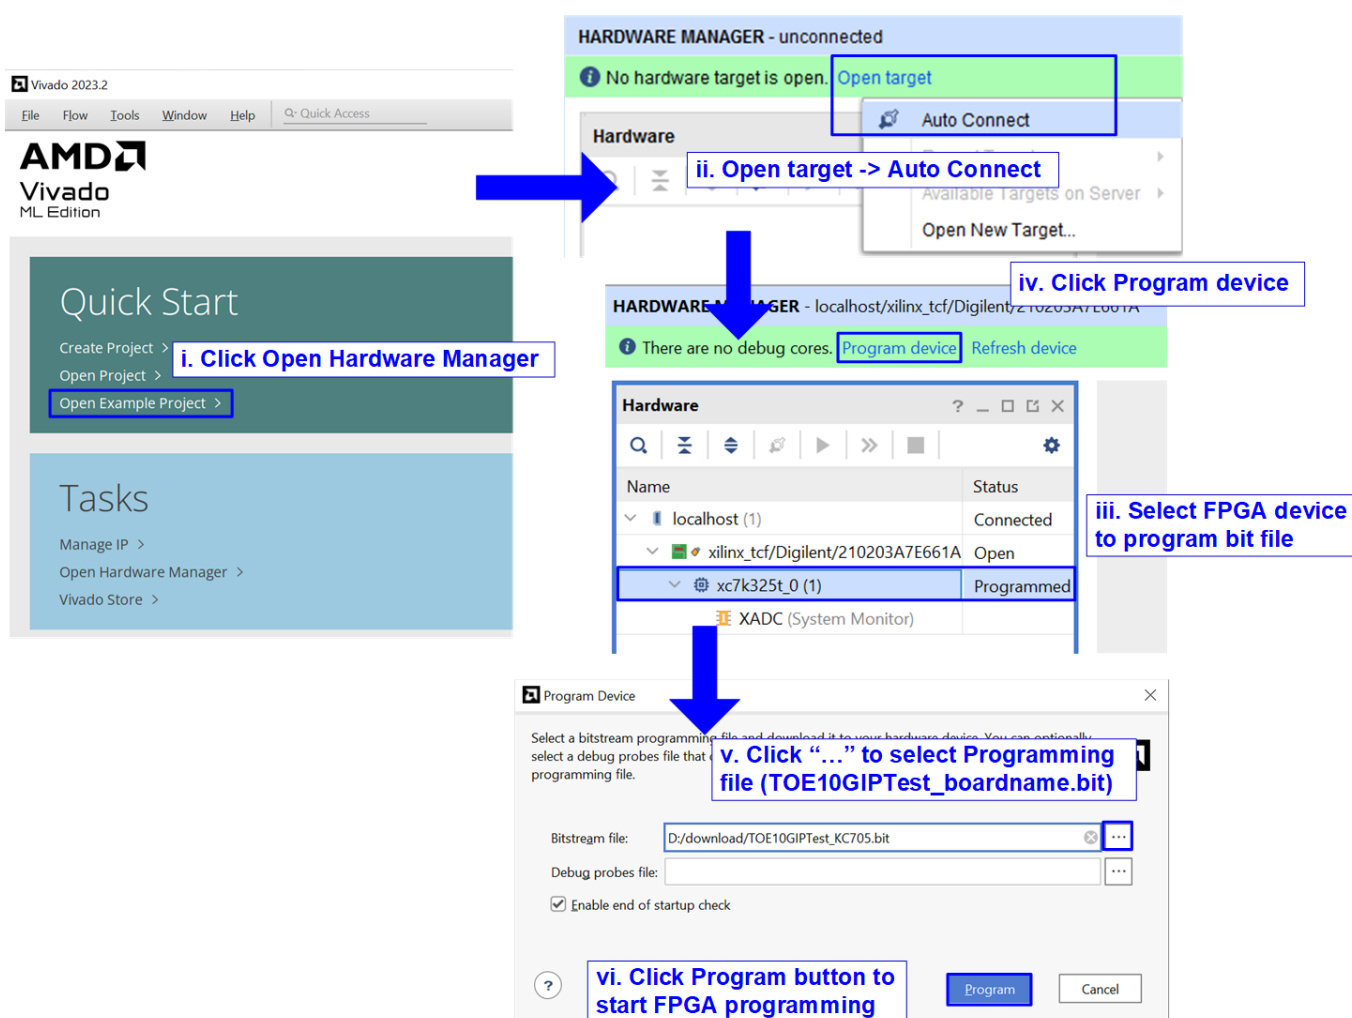

Figure 2-6 Program FPGA by Vivado
6) Download the configuration file and firmware to the FPGA board using the Vivado tool to program the configuration file, as shown in Figure 2-6.